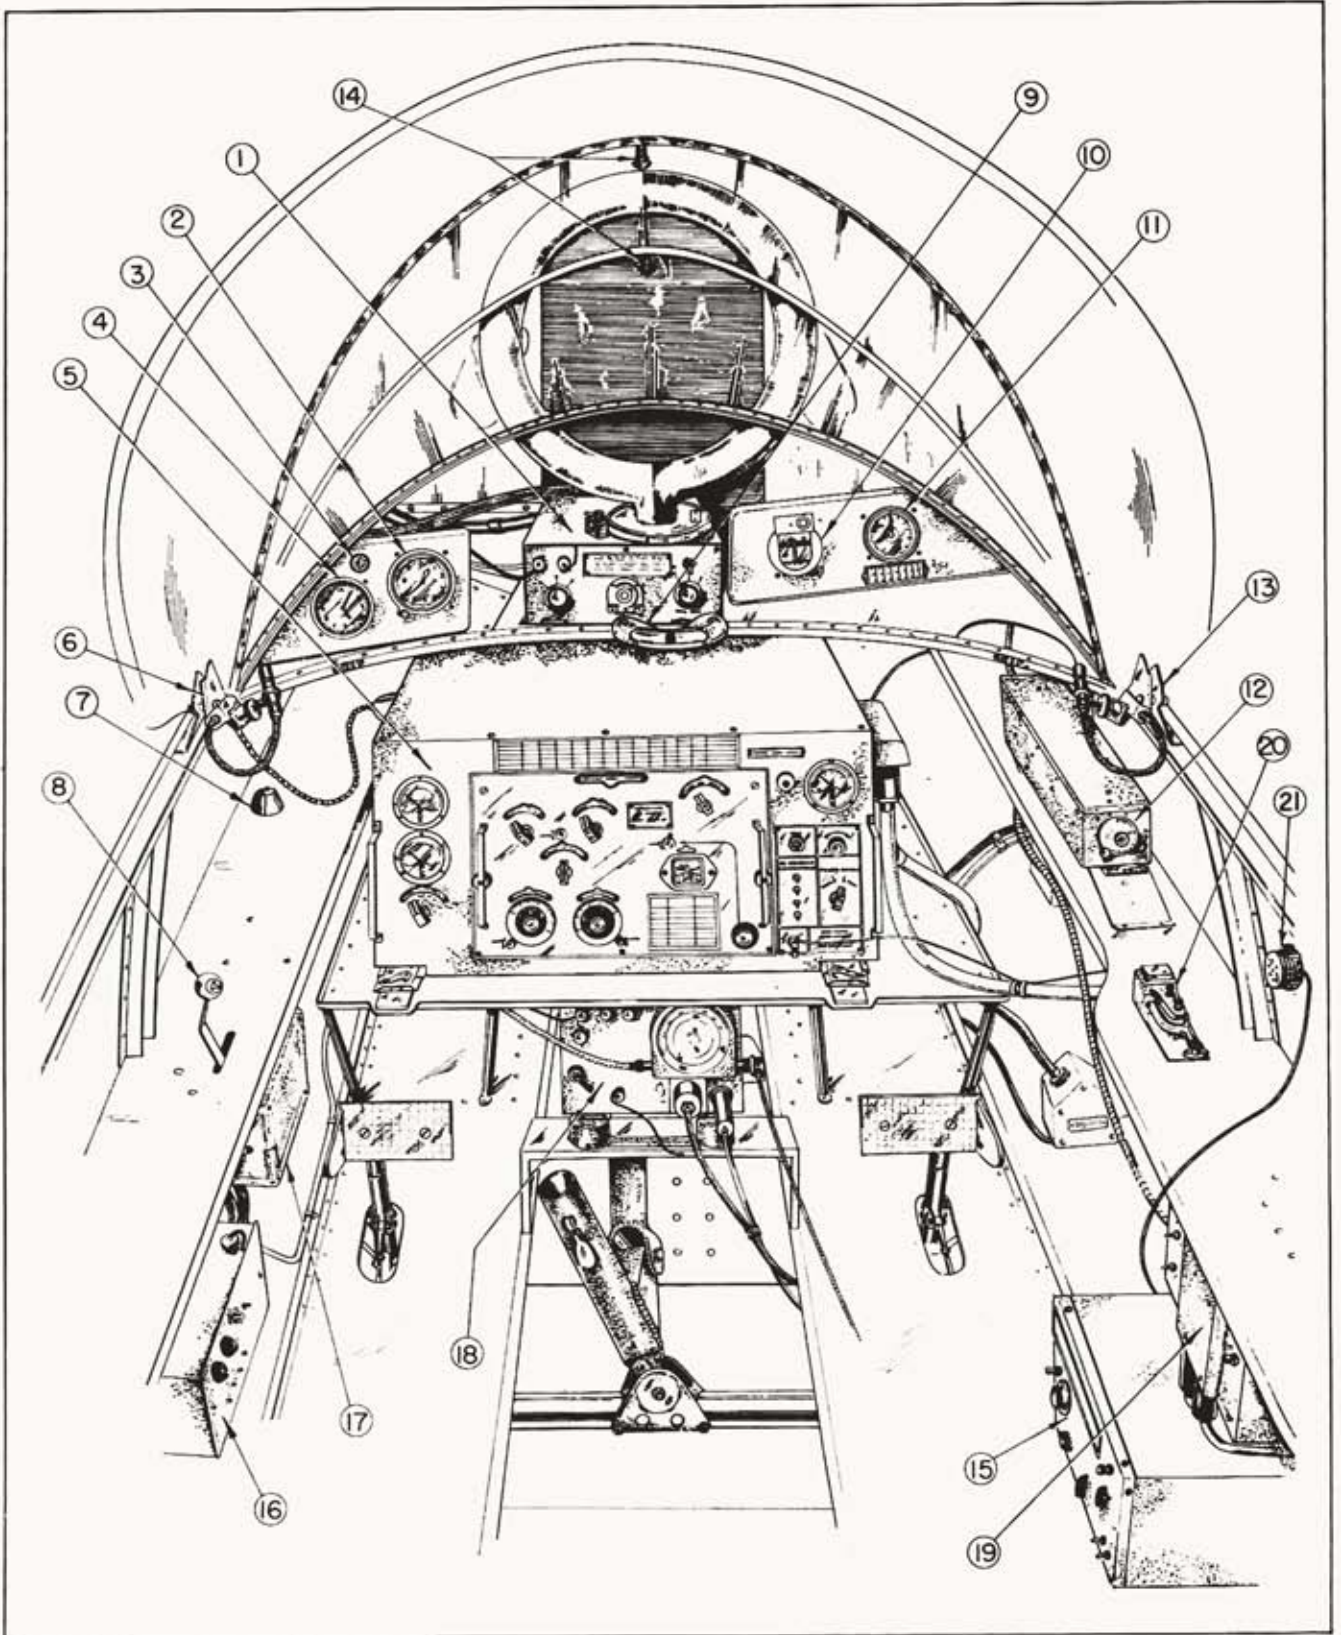

Figure 4.—Rear cockpit.
**Index to Figure 4—Rear Cockpit**
All radio equipment shown on Figure 4 is installed in J2F-6 Airplanes No. 36935 to 37034, inclusive, 32637 to 32739, inclusive, and 32741 to 32786, inclusive.